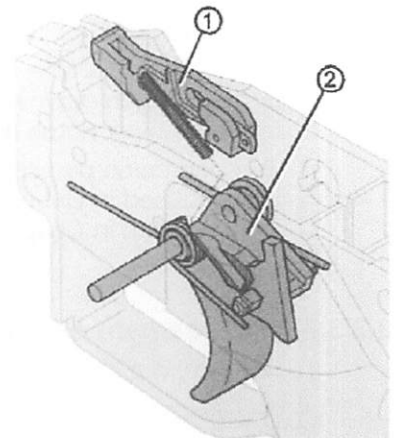

Fig. 62 Assembly position of compression spring
- ⇒ First introduce the compression spring into the spring guide of the sear (Fig. 62/1).
- ⇒ Introduce sear with compression spring into pistol grip and introduce free end of spring into the spring guide on trigger (Fig. 62/2).